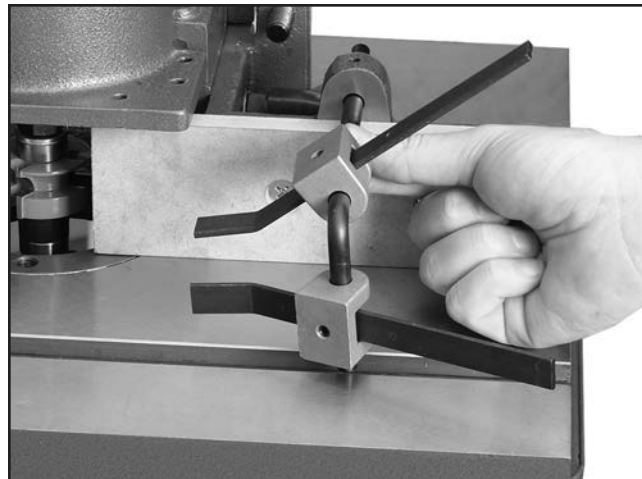

Figure 24. Inserting hold-down bar into fence bracket.
- Slide the long arm of the hold-down bars through the holes in the cast iron fence brackets, as shown in **Figure 24**.